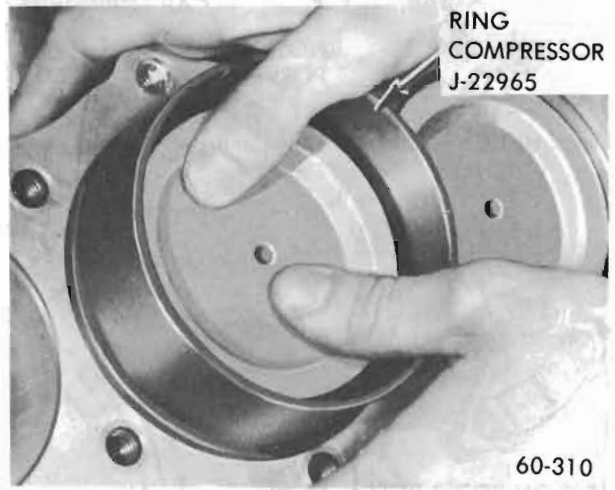

Figure 60-107 - Installing Piston with Ring Compressor Installed (350 Shown)
12. Make sure the gap in the oil ring rails is "up" toward center of engine and the gaps of the compression rings are positioned as shown in Figure 60-107.
13. Lubricate the piston and rings and install in bore by compressing the rings either with a "wrap around" compressor or a split ring type such as shown in Figure 60-107.